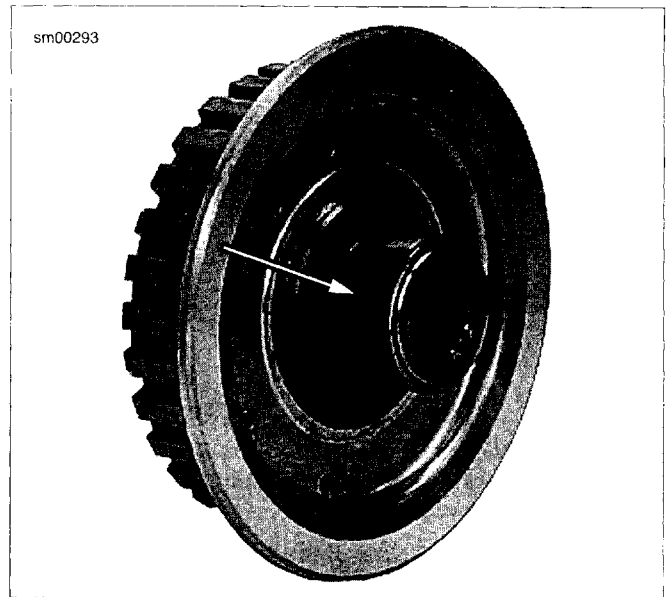

Figure 5-30. Clutch Hub Bearing Race
7. See Figure 5-30. Inspect clutch shell bearing inner race on the back side of the clutch hub for pitting and wear. If the inner race shows any signs of damage, the complete hub assembly must be replaced.